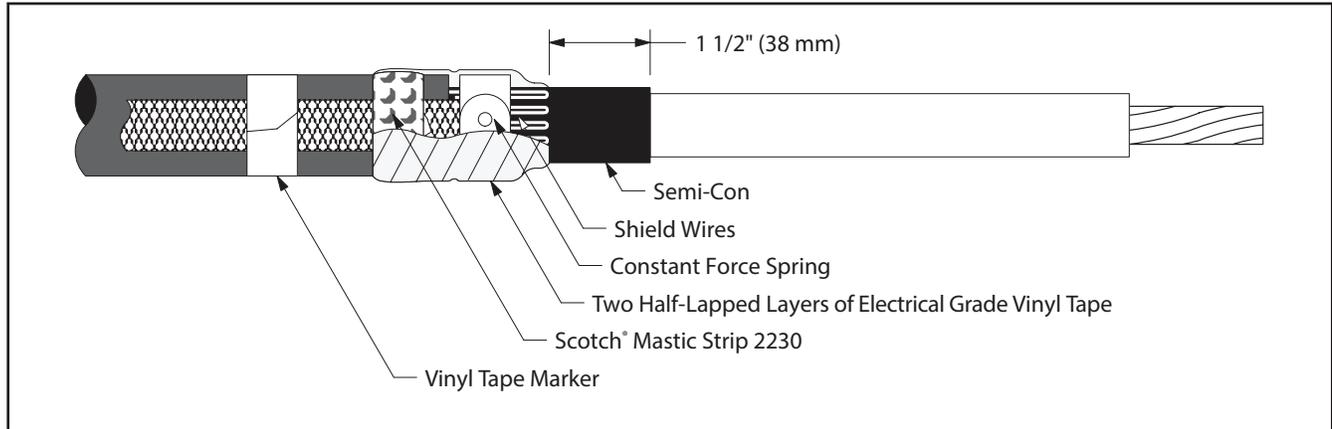

Figure 12
8.5 Wrap two highly stretched half-lapped layers of electrical grade vinyl tape around mastic seal, constant force spring and exposed shield wires (*Figure 12*).